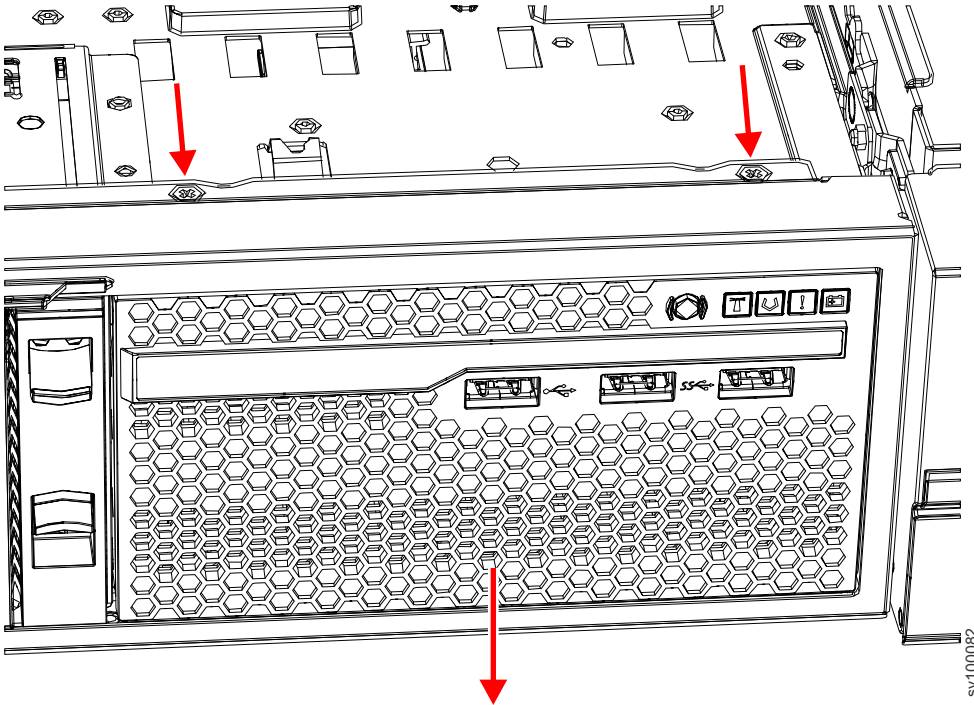

Figure 161. Removing the 2145-SV1 operator-information panel assembly
2. Remove the two screws from the top of the assembly, as shown in Figure 161 on page 191.
3. Push the operator-information panel assembly from behind in the direction that is shown in Figure 161 until it protrudes from the front of the node.